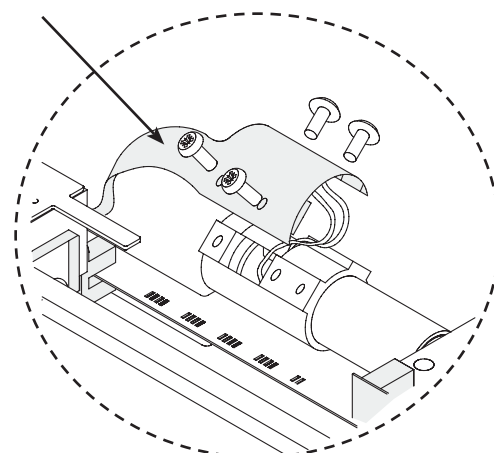

Figure 1.
2. Remove the four fixing screws and disconnect (de-solder) the motor wires (see Figure 1).